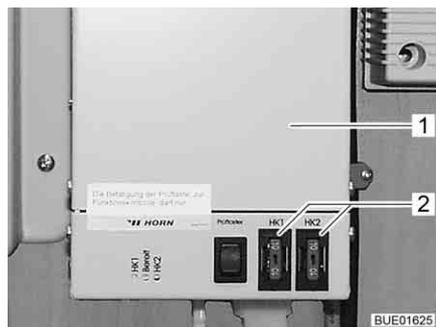

Fig. 129 Heater regulation for waste water pipes
The fuses are located on the regulator (Fig. 129,1).
- Replace fuse (Fig. 129,2).